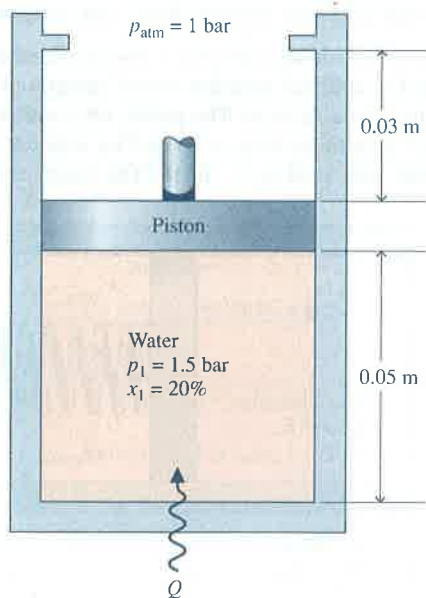

Fig. P3.71
3.71 Referring to Fig. P3.71, water contained in a piston-cylinder assembly, initially at 1.5 bar and a quality of 20% ,